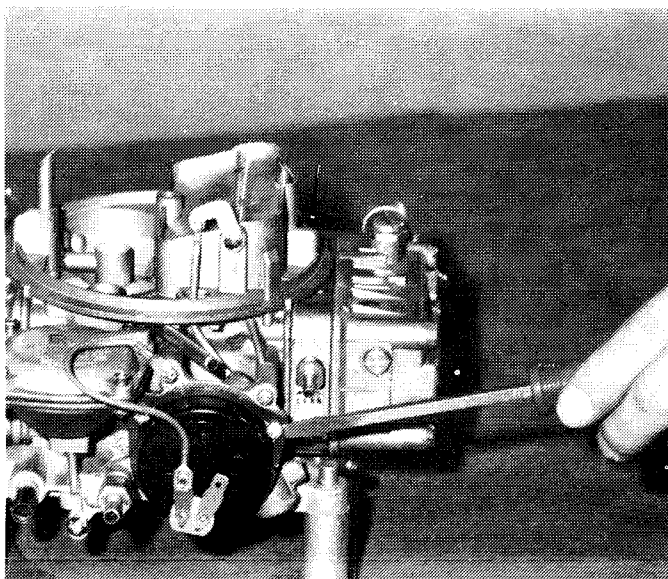

Fig. 6: Remove choke cap by removing 3 retaining screws.
1. Remove choke cap and choke housing (if carburetor is equipped with integral choke), Fig. 6 and 7.